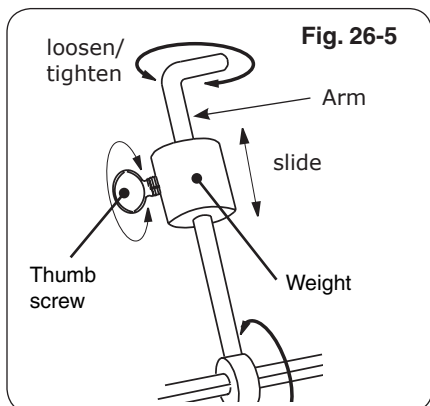

Fig. 26-5
7. Slide the counterbalance weight up or down the arm until the rod rotates most evenly then tighten thumb screw (Fig. 26-5 and Fig. 26-6).